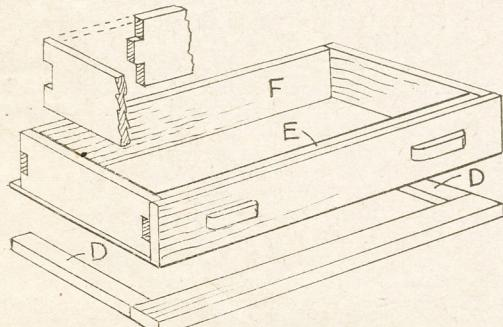
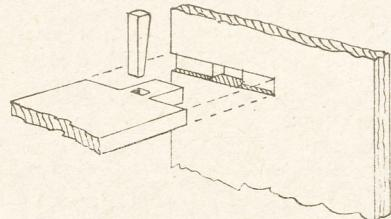
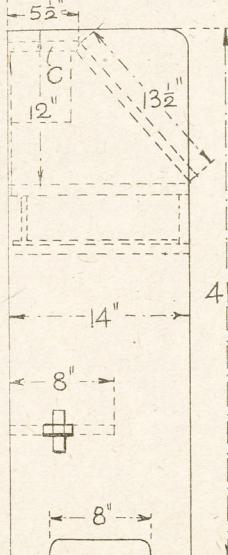

Fig. 4—Construction of drawer and framework
Fig. 3—Tenon and key joint detail
Fig. 2—Side and front view giving details and dimensions of parts
Sheets of newspaper are arranged in a triangular form, as shown in Fig. 2. There should be two or three thicknesses. The front point is then brought up over the instep, as in Fig. 3, and finally the other two corners are brought over, giving the result as at Fig. 4.
Wood $\frac{3}{4}$ in. or $\frac{5}{8}$ in. thick should be used for the main carcase of the bureau, with $\frac{1}{2}$ in. stuff for certain parts of the drawer and $\frac{1}{4}$ in. wood for the interior compartments. There is no need to describe the construction of the bureau in detail, because the front view and side view given in Fig. 2 show all the parts plainly.
A small mortise is next cut in each end upright measuring $2\frac{1}{2}$ ins. long and $\frac{3}{4}$ in. wide to receive the tenon on the end lower shelf, see side view Fig. 2. The position of the mortise needs carefully setting out and checking on each upright for height and back measurement.
being $13\frac{1}{2}$ ins., while (C) is $5\frac{1}{2}$ ins. The extreme lower cross rail or shelf will be 30ins. long, its width 8ins. Mark off $1\frac{1}{2}$ ins. from each end of the shelf and set out the projecting tenons and the square holes to take the keys. All this is shown in the detail Fig. 3.
It should be stated that the front edge of top shelf (C) must be planed to a chamfer, as seen in Fig. 2, to allow the falling front to rest upon it at the right angle. Before actually gluing the various parts, test the shelves and their housings and the mortise and tenons of the lower shelf. Apply glue to the ends of the lower shelf and wedge up securely with the wedge-shaped keys.
The middle rail (A), it will be noted from the diagram Fig. 4, is not a wide rail like its neighbour (B) above, but merely consists of a narrow board
The drawer is made as shown in Fig. 4. The front will be 26ins. long by 3 $\frac{1}{2}$ ins. wide by $\frac{1}{2}$ in. thick. The drawer sides are 12 $\frac{1}{2}$ ins. long, 3 $\frac{1}{2}$ ins. wide and $\frac{1}{2}$ in. thick.
The inner front and the back, pieces (E) and (F) respectively, are 26ins. long by 3 $\frac{1}{2}$ ins. wide and $\frac{1}{2}$ in. thick. The four pieces forming, as it were, the inside frame of the drawer, are lapped together at the angles and glued up, as in the enlarged detail in Fig. 4.